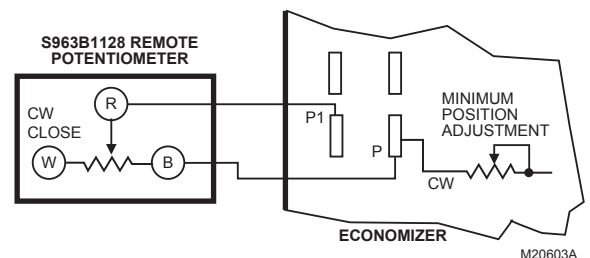

Fig. 5. S963B1128 Remote Potentiometer used with logic module for remote damper control.
Remote control of outdoor air dampers is desirable when requiring temporary additional ventilation. The addition of a S963B1128 Remote Potentiometer allows occupants to open or close the dampers beyond minimum position for modified ventilation. Connect the potentiometer as shown in Fig. 5.
3. Ensure that either the factory-installed jumper is in place across terminals P and P1 or, of remote damper position is required, that it is wired according to Fig. 5 and turned fully clockwise.